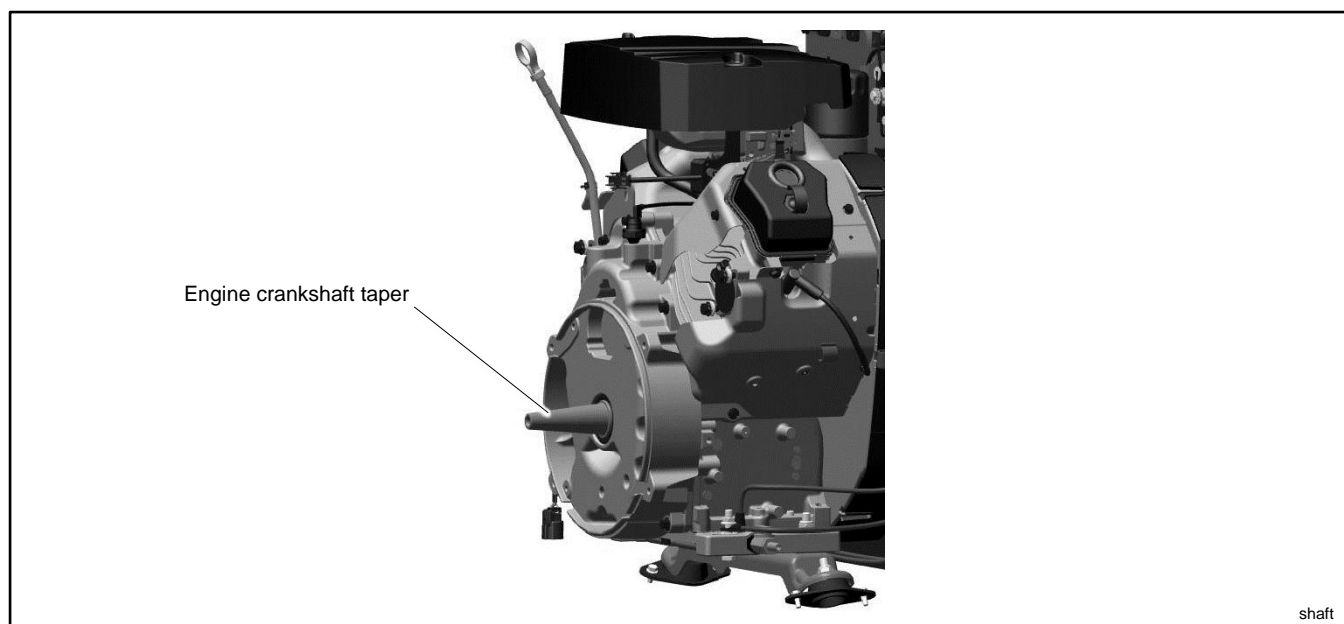
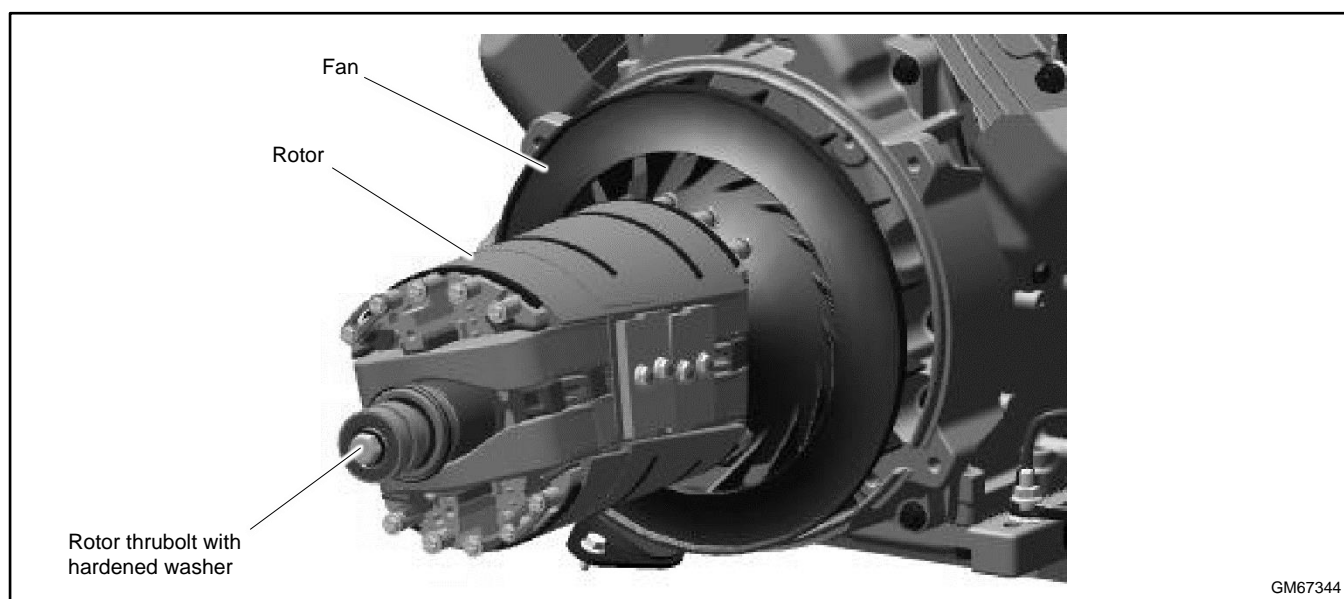

Figure 129 Shaft (20RCA shown)
Figure 130 Rotor Assembly
2. Install the rotor assembly. See Figure 129 and Figure 130.
- a. Clean the crankshaft taper and mating rotor shaft. See Figure 129.
3. Tighten the rotor throbolt to 85 Nm (63 ft. lb.). It may be necessary to keep the engine flywheel from turning while torquing the rotor throbolt. See Figure 130.